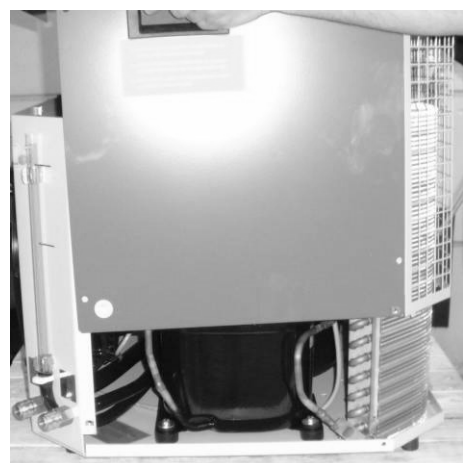

Fig. 29
4. Refit the cover (Fig.29) in reverse order.